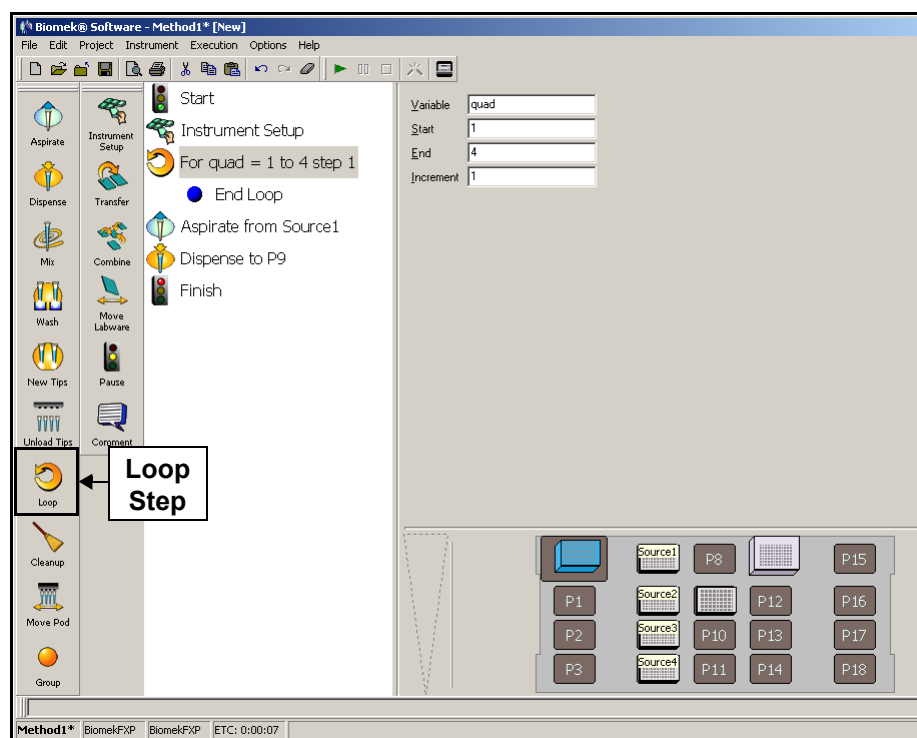

Figure 3-9. Loop step for repeating aspirate and dispense
5. In **Increment**, enter **1**. The **Increment** value is how much the value for the variable *quad* changes with each iteration of the **Loop**. Your **Loop** step configuration should look like Figure 3-9.